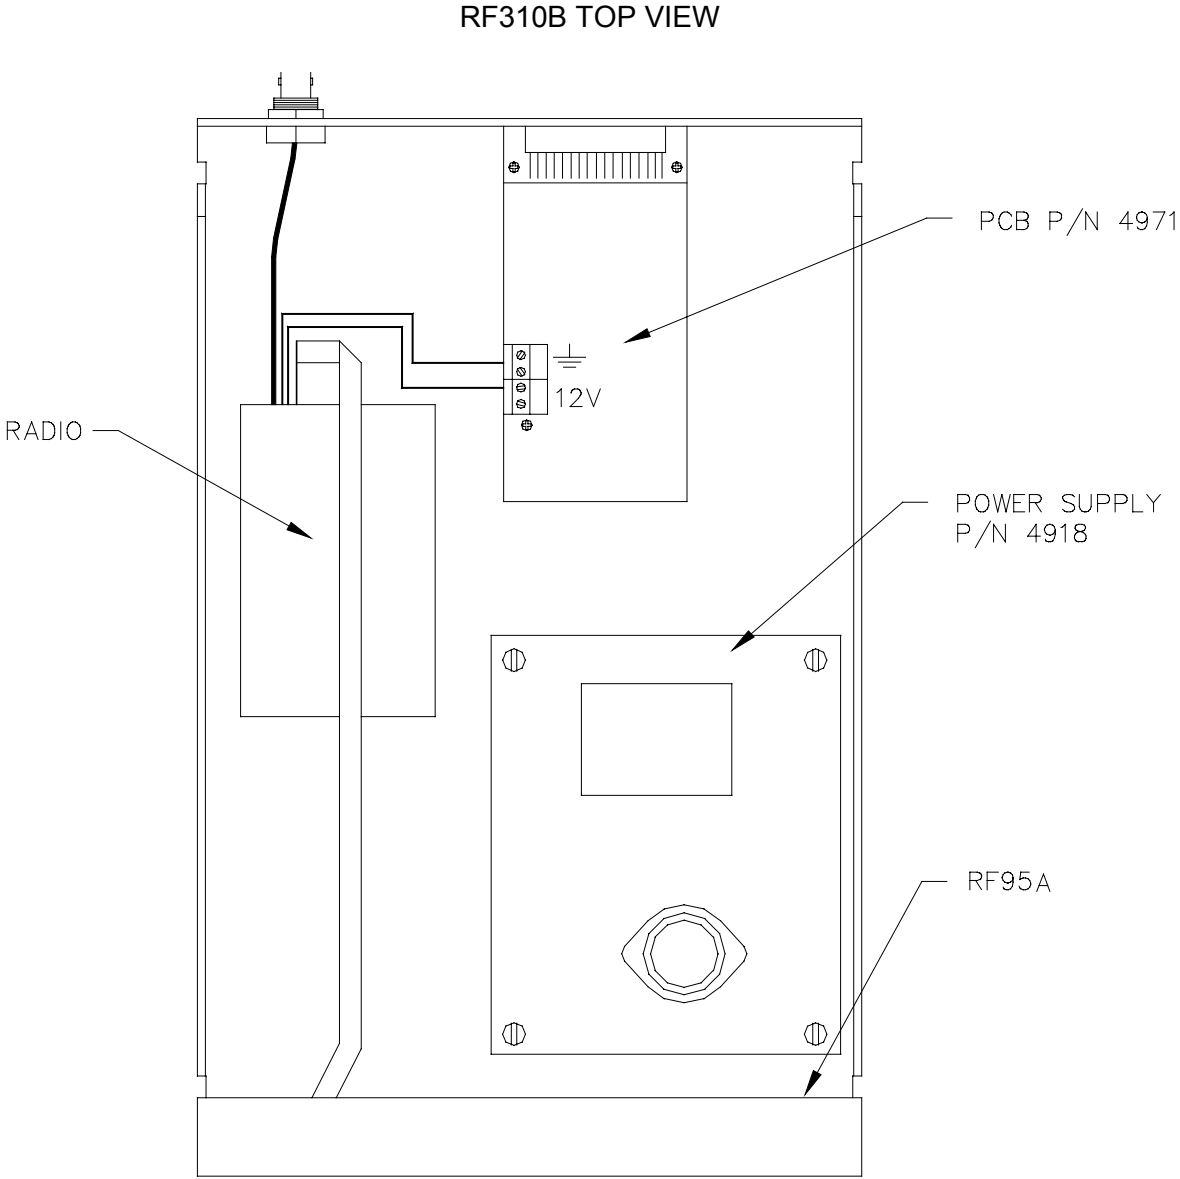

FIGURE 3-8. Top View of the RF310B Base Station
2. Lift the cover off the RF310B and locate the power supply (P/N 4918) as shown in Figure 3-8.